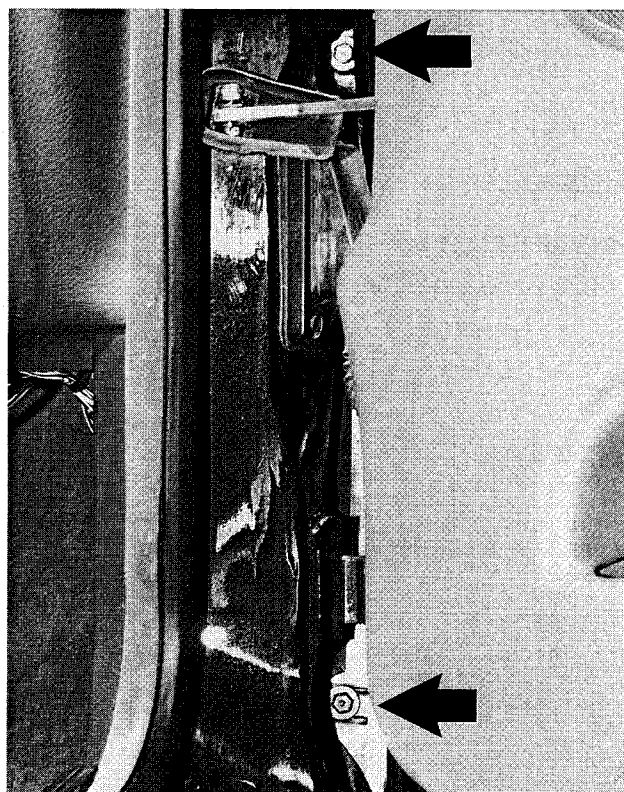

Fig. 4. Front fender attaching bolts as viewed through door jamb (arrows).
8. Open front door and remove fender mounting bolts in door jamb. See Fig. 4.